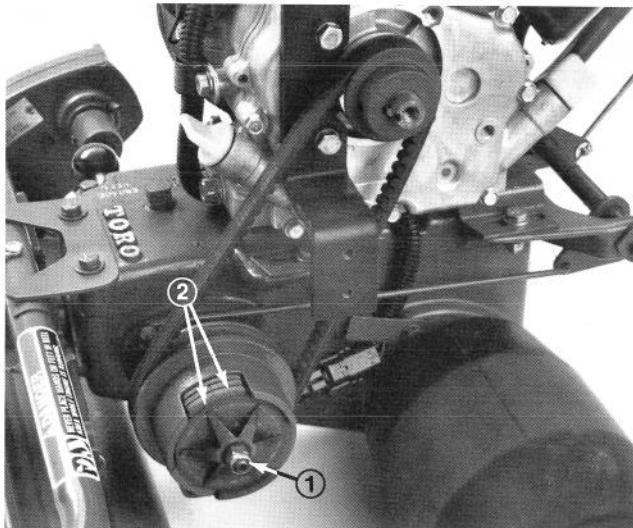

Figure 39
2. Tighten clutch locknut in small increments, start engine and test adjustment (Fig. 39).
**Note:** Clutch plates and friction discs should be totally free of grease or oil (Fig. 39).